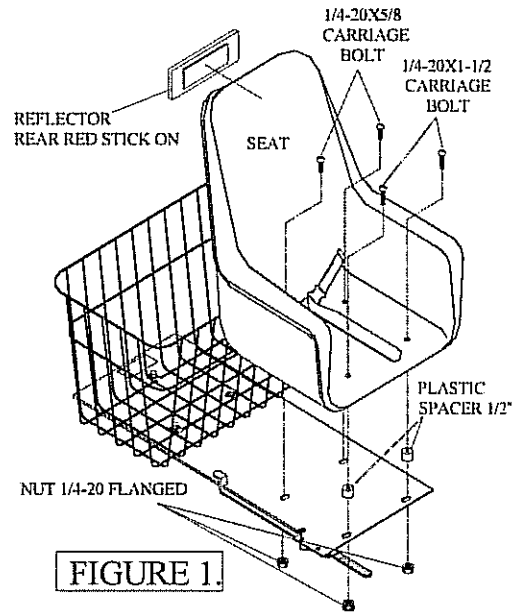

FIGURE 1.
(see figure 1.)
Complete by installing rear red and front clear reflectors on places (see figure 1. and Illustrated Parts Breakdown), safety flag (4) in the holder. Review the instruction, check connecting bolts and screws for tightness, and readjusting the seat and handlebar as necessary.